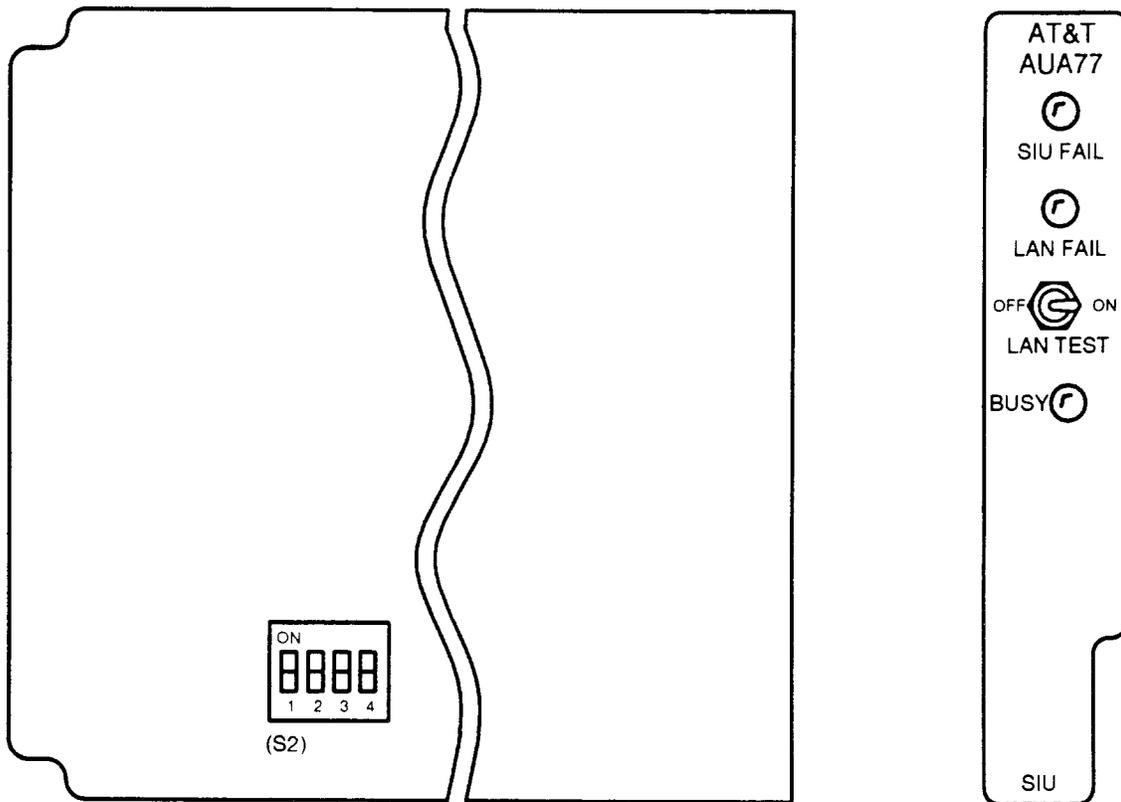

Figure 1 — SIU Switch Location and Faceplate Diagram
1. Get one **AUA77** site interface unit (**SIU**) and inspect for possible damage (See Figure 1).